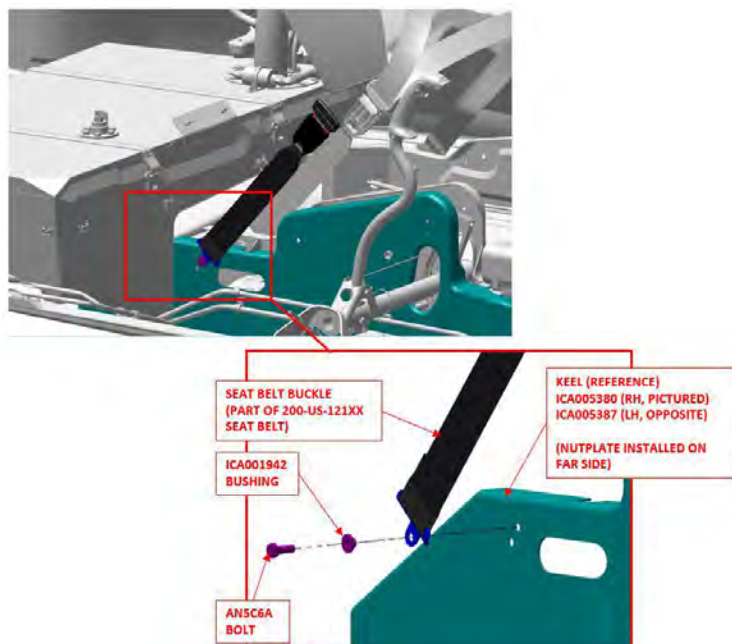

FIGURE 8-2
4. Use a 1/2 wrench to remove the bolt securing the inboard end of the seat belt where it attaches to the inboard keel structure; it is threaded into a nutplate. See Figure 8-2.
5. Install the seat belt buckle side of the belt assembly onto the inboard keel as shown in Figure 8-2. Torque the bolt to 90 in-lb_f.